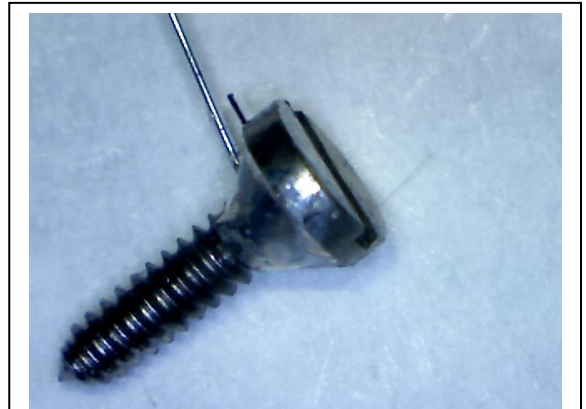

Fig1: Screw, after soldering
- F. Use the solder (very clean iron tip) and make a drop just below the screw head. Very little solder is needed. Try to make it as small as possible (Fig 1).